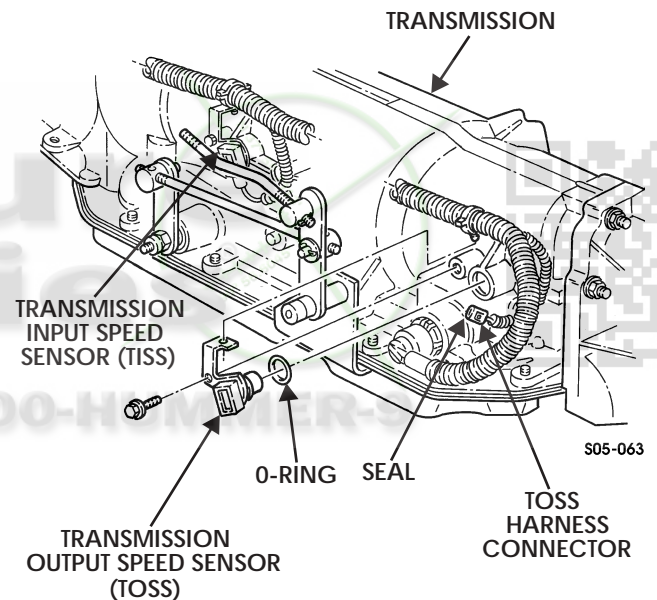

Figure 5-108: Transmission Input and Output Speed Sensors
2. Disconnect TOSS harness connector from sensor body. Environmental seal is reusable if not damaged (Figure 5-108).
1. Lubricate O-ring seal with ATF and place it on TOSS barrel (Figure 5-108).